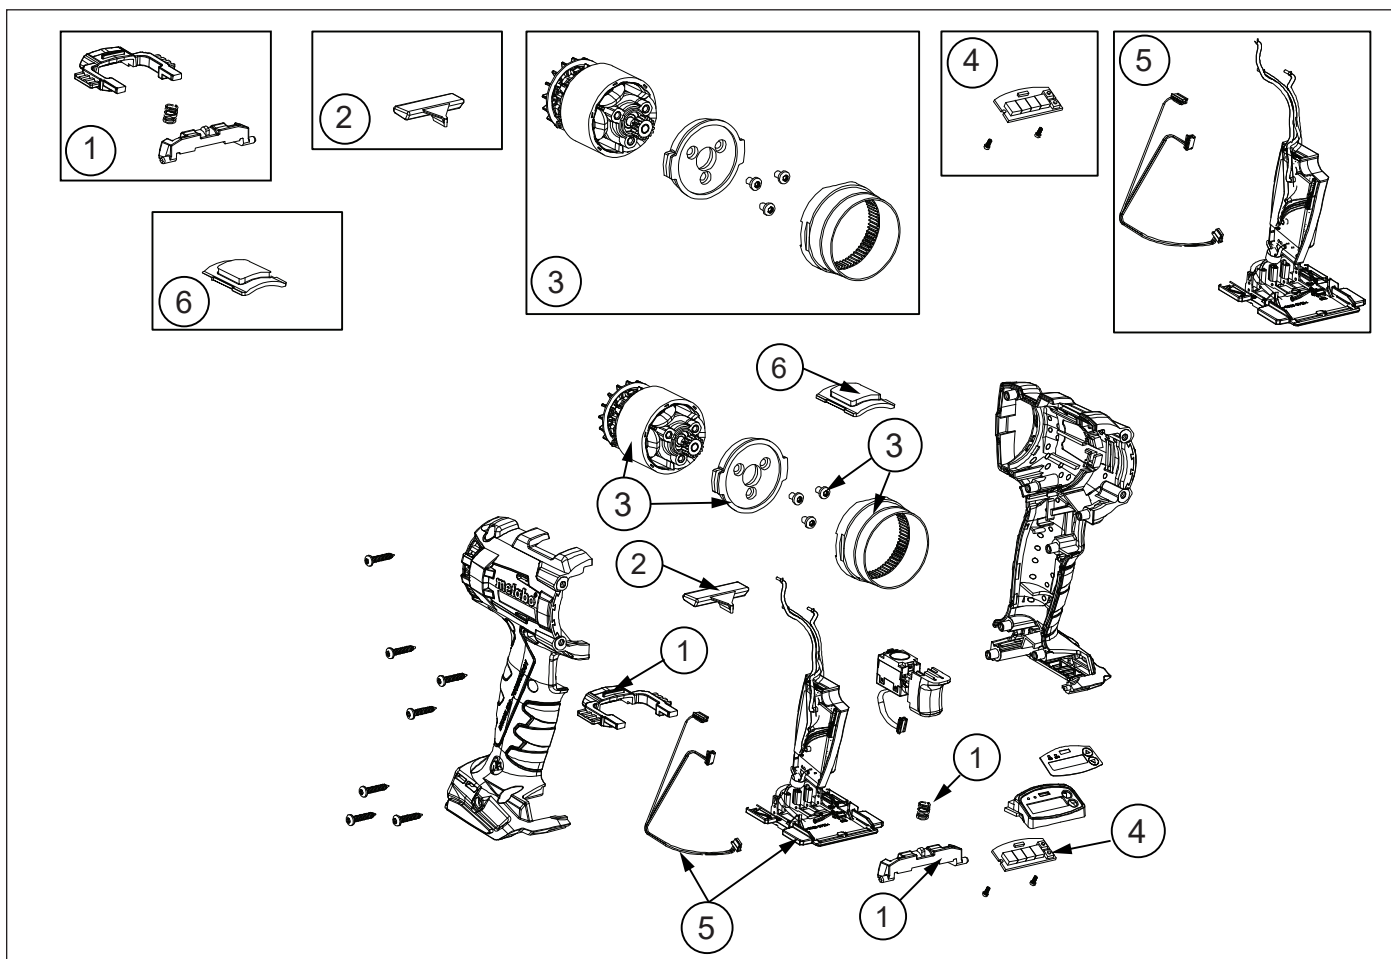

Abbildung 8: BTW Handle Service Kits
9.2.2 BTW Handle Service Kits (Figure 8)